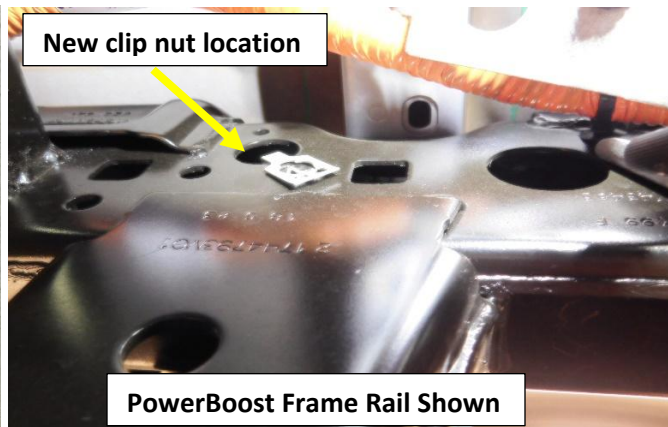

Figure.11
The FACTORY Left side tail pipe frame hanger assembly will not be used for Standard F-150 or PowerBoost models. The Flowmaster Frame hanger 535HA (17) will be installed in its place. It will be necessary to relocate the factory Clip nut to a different location in the frame rail if it is not already there. Most standard F150 frame hanger assemblies use the correct location, PowerBoost vehicles will need the clip nut relocated as shown in Figure. 11/12
2. Remove one of the existing frame hanger clip nuts and re-install it into the frame rail at the location in **Fig.11**.